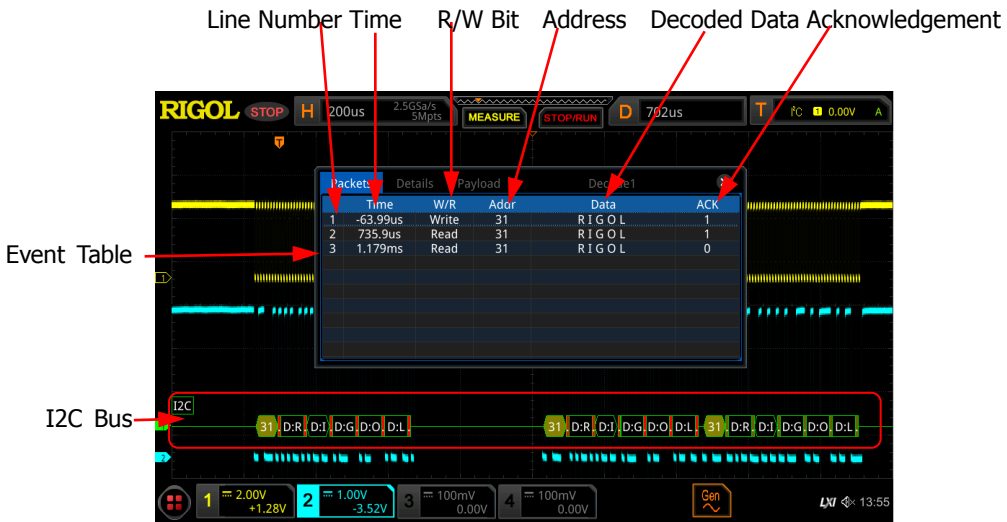

Figure 11-6 I2C Decoding Event Table
- Open or close the event table: Click **Event Table** continuously to enable or disable the event table. When you enable the event table, the following figure is displayed, as shown in Figure 11-6. Click on the icon **✕** at the upper-right corner of the table to close the event table. Besides, when the operating status is "STOP", you can select a specified line and view the corresponding decoding information.